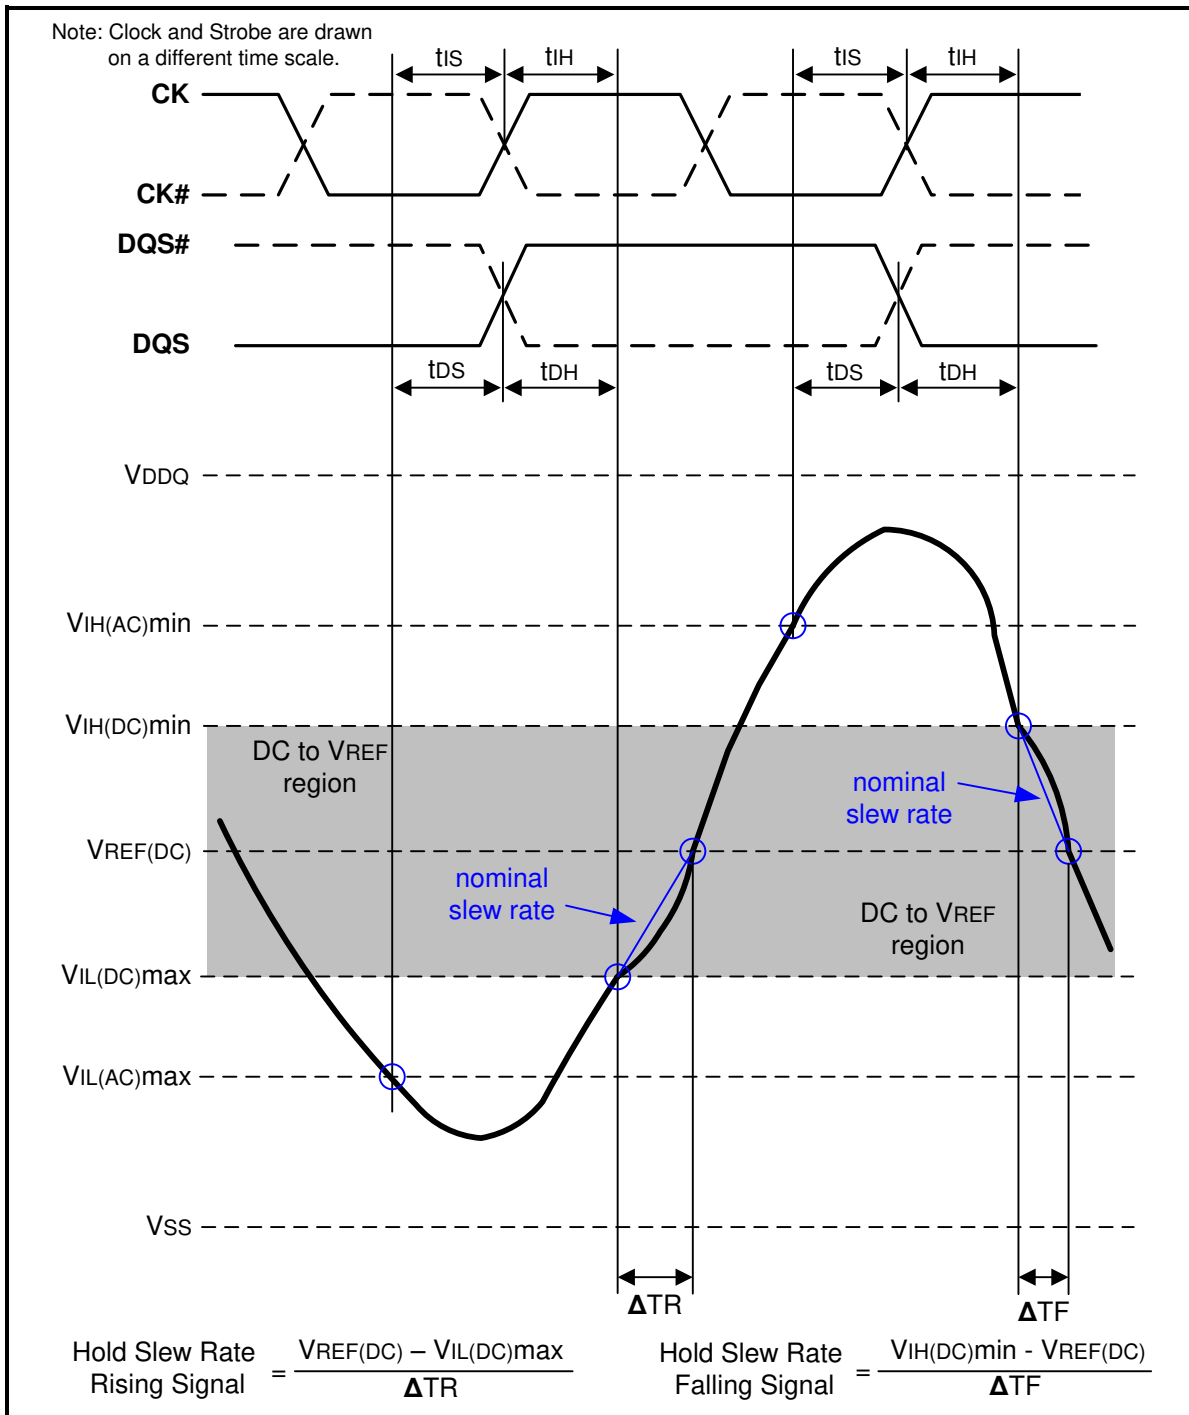
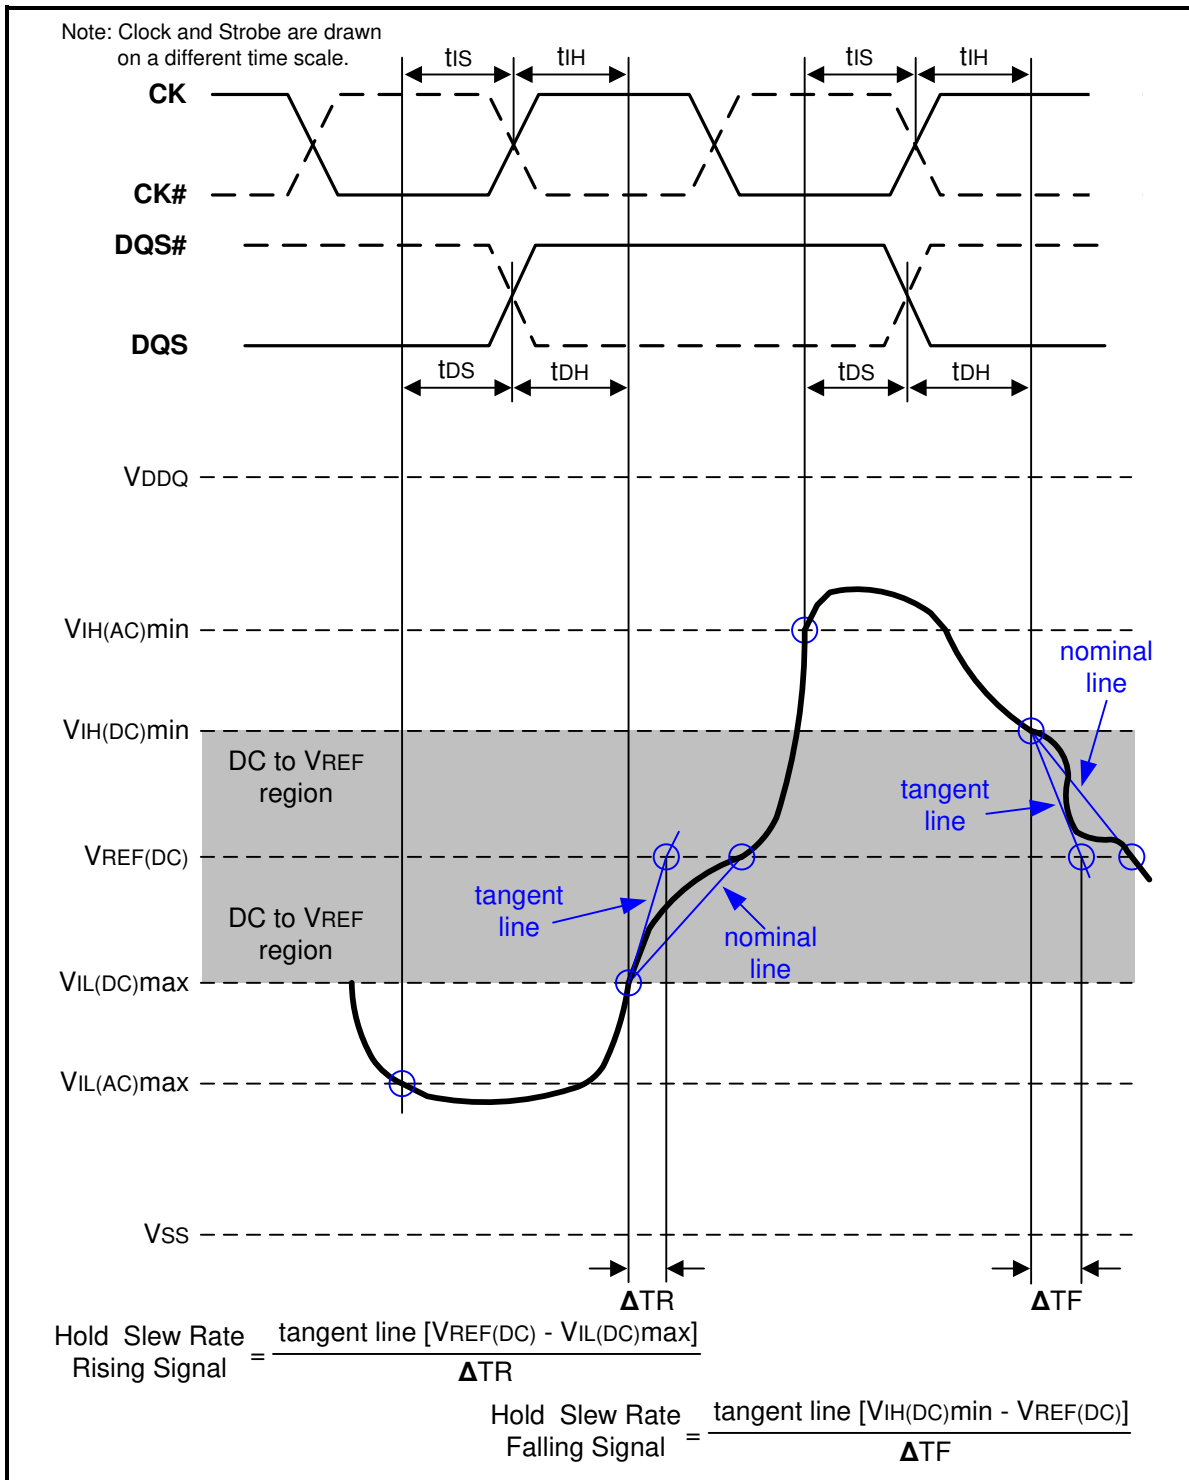

Figure 108 – Illustration of nominal slew rate for hold time tDH (for DQ with respect to strobe) and tIH (for ADD/CMD with respect to clock)
Figure 110 – Illustration of tangent line for hold time tDH (for DQ with respect to strobe) and tIH (for ADD/CMD with respect to clock)
Hold (t_{IH}) nominal slew rate for a rising signal is defined as the slew rate between the last crossing of $V_{IL}(\text{DC})_{\text{max}}$ and the first crossing of $V_{REF}(\text{DC})$. Hold (t_{IH}) nominal slew rate for a falling signal is defined as the slew rate between the last crossing of $V_{IH}(\text{DC})_{\text{min}}$ and the first crossing of $V_{REF}(\text{DC})$. If the actual signal is always later than the nominal slew rate line between shaded 'DC to VREF(DC) region', use nominal slew rate for derating value (see Figure 108). If the actual signal is earlier than the nominal slew rate line anywhere between shaded 'DC to VREF(DC) region', the slew rate of a tangent line to the actual signal from the DC level to $V_{REF}(\text{DC})$ level is used for derating value (see Figure 110).
Hold (tDH) nominal slew rate for a rising signal is defined as the slew rate between the last crossing of VIL(DC)max and the first crossing of VREF(DC). Hold (tDH) nominal slew rate for a falling signal is defined as the slew rate between the last crossing of VIH(DC)min and the first crossing of VREF(DC) (see Figure 108). If the actual signal is always later than the nominal slew rate line between shaded 'DC level to VREF(DC) region', use nominal slew rate for derating value. If the actual signal is earlier than the nominal slew rate line anywhere between shaded 'DC to VREF(DC) region', the slew rate of a tangent line to the actual signal from the DC level to VREF(DC) level is used for derating value (see Figure 110).